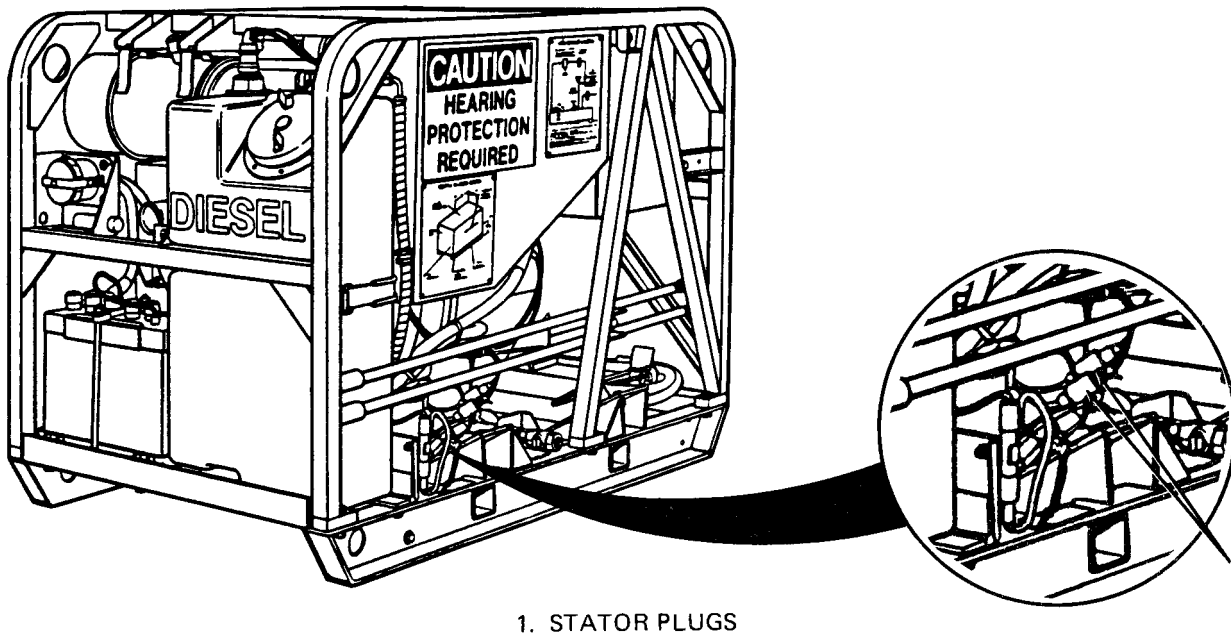

Figure 7-24. Battery Charger Stator Testing.
- (1) Use a multimeter (set to read ohms) to check the stator windings.
- (2) Disconnect the stator windings at the wiring plug (1, Figure 7-24).